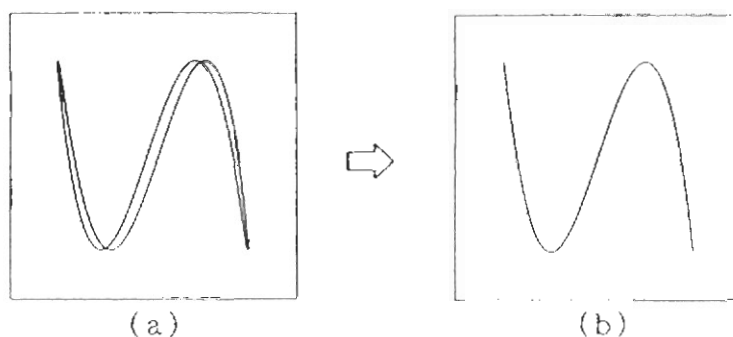

Fig. 12-3 Pilot Signal and TRI Subcarrier Phase Calibration
Adjust TRI SUBCARRIER PHASE ④6 to change the display from Fig. 12-3 (a) to that of (b).